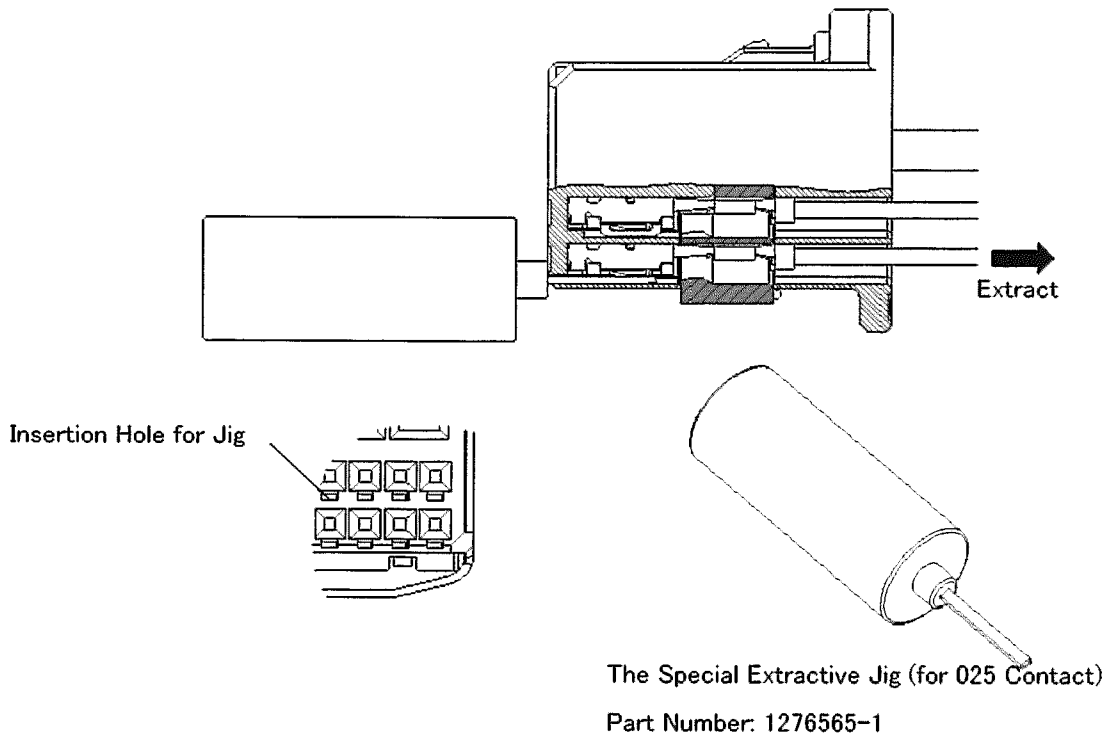

Fig.12
- (1) Confirm the retainer is in pre-assembled condition. When the retainer is in final lock condition, it must be changed to pre-assembled condition. See para.6.3. The female contact can not be extracted in final assembled condition.
- (2) In the case of 025 contact, insert the special extractive jig into the proper hole to the end, remove the loaded contact from housing while pull the crimped wire. See Fig.12.